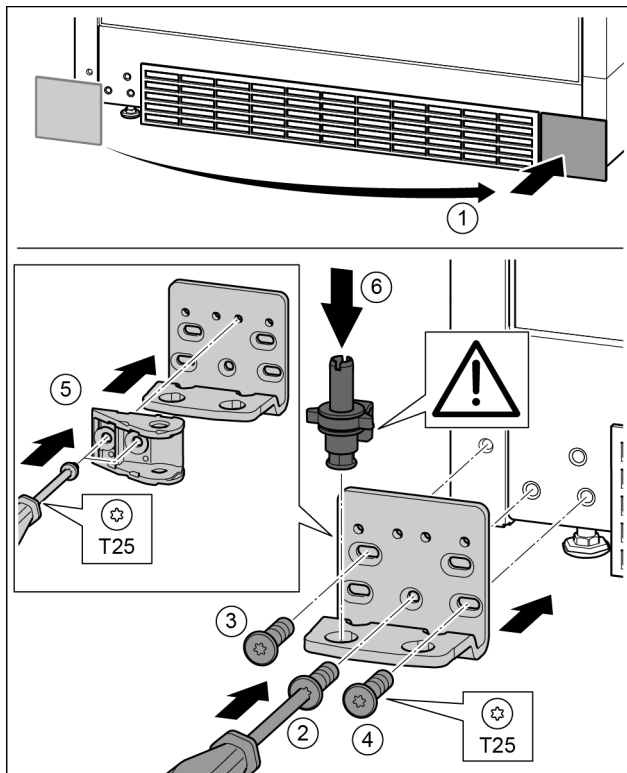

Fig. 32
- Remove the cover and fix it on the other side. Fig. 32 (1)
- Place the bearing bracket on the other side and screw in with the aid of a T25 screwdriver. Start with screw 2 at the bottom in the middle. Fig. 32 (2)
- Screw in screws 3 and 4. Fig. 32 (3, 4)
- Rotate the soft stop connection 180°. Screw in with a T25 screwdriver on the other side of the bearing bracket. Fig. 32 (5) \*
- Insert the bearing pin completely. Make sure that the catch mechanism is pointing to the rear. Fig. 32 (6)